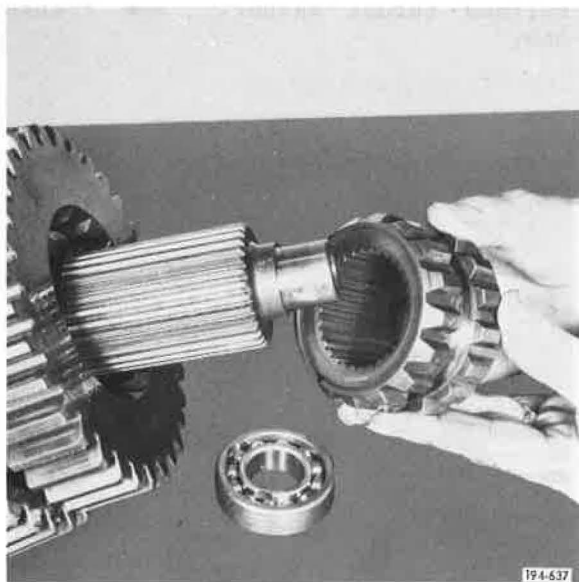

Figure 352. Installing Clutch
11. Install fourth/fifth speed sliding clutch. See Figure 352.